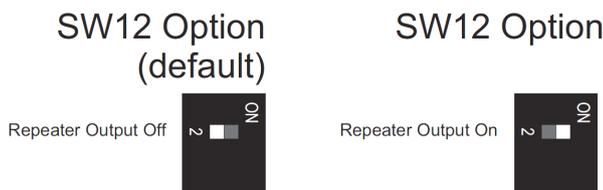

Figure 21: Repeater Output Setting
- Connect the cables (clearly labelled with the zone numbers) to the appropriate zone +/- terminals, observing the correct polarity (see Figure 21).
- To enable the repeater output switch 2 of SW12 on the panel main board must be changed to the "Repeater Output On" setting (see Figure 21).